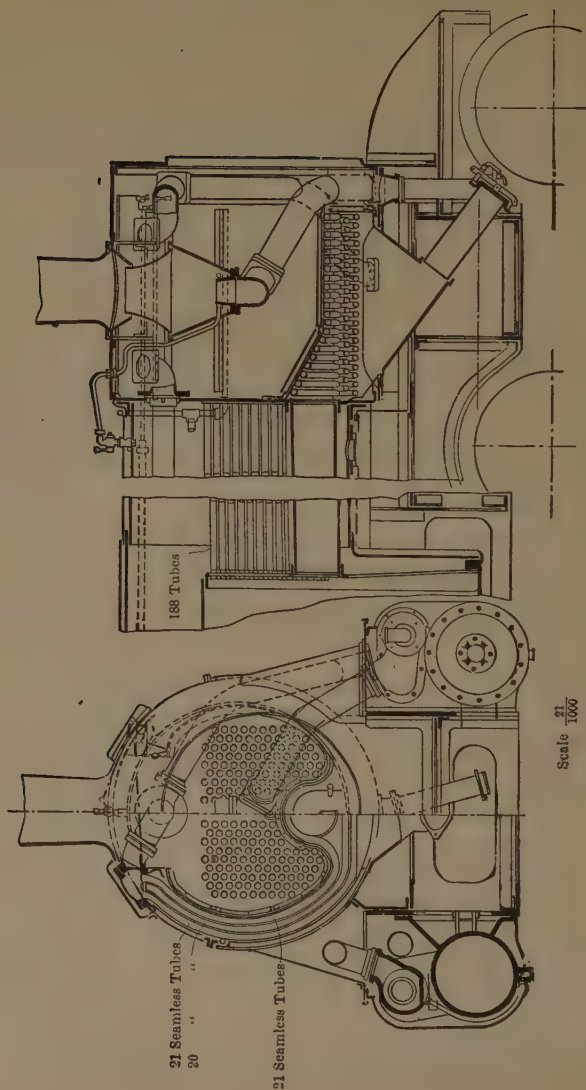

Fig. 107. The Schmidt Superheater.
A. As shown in Fig. 107, in which is given a front view, there is in the lower part of the tube sheet, taking the place of several large tubes, a large one, 280 to 300 millimeters = say 11.2 inches to 12 inches diameter, according to the boiler diameter. The superheater itself consists of 62 tubes of 30 to 32 millimeters = say 1.2 inch to 1.28 inches internal diameter, forming three concentric rings, nearly touching. The upward-pointing end of each set of tubes is expanded into a long steam-chamber, one to the right, another to the left of the stack. The 21 tubes of the inner rings are bent, below, away from the two outer ring rows, so that between the inner and the two outer ring rows there is a space (called the superheater fire-box) in which enter the combustion-gases from the large pipe. The inner wall of the superheater takes